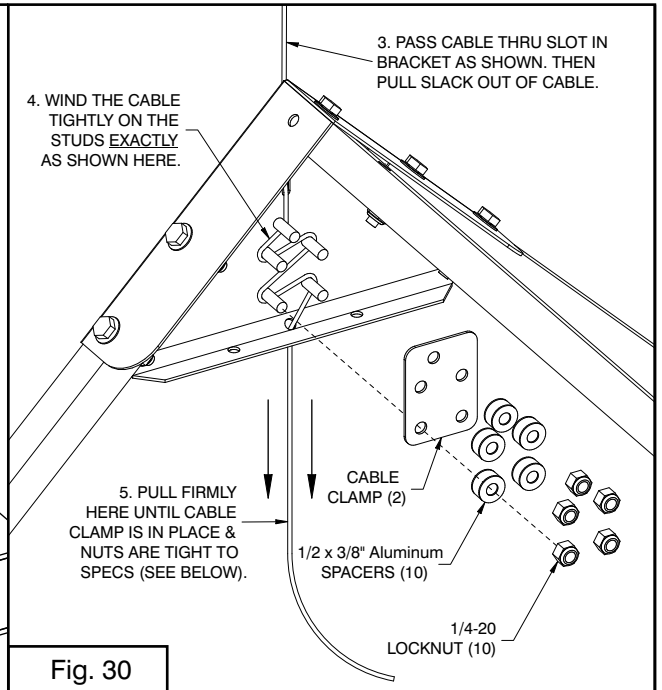

Fig. 30
**8-3.** Pass the ends of the cables through the slots in the platform leg brackets as shown in Fig. 30.
**8-4.** Pull the cable tight and wind it tightly around the threaded studs exactly as shown in the illustration. Wrap it as tightly as possible. Pinch the last loop around the last stud, then pass the end of the cable through the center hole in the bottom of the leg bracket (Fig. 30).
**8-5a.** Draw the cable tight by pulling firmly on the end of the cable (Fig. 30).
**8-5b.** While holding tension on the cable, install the cable clamp first, then install a 1/2 x 3/8 aluminum spacer and locknut on the last stud and snug it down to hold the cable, but don't tighten it yet (Fig. 30). Then install the rest of the aluminum spacers and locknuts and snug them down (*you can tell when the locknut is getting snug when it begins to turn a little harder and the aluminum spacer can't be turned with your fingers.*) Repeat this procedure for the second cable and apply the same tension (or slight slack) as with the first cable.